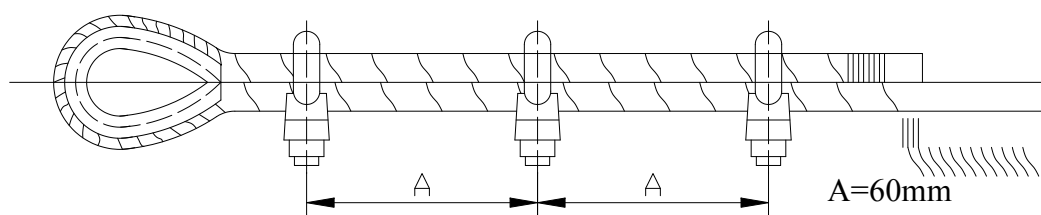

Figure 8: The Correct Clamping Method
4.7.3 The fixing method at the end of steel rope should be in accordance with the requirements of the standard GB5976-86 (see figure 8 as below). U bolt is fixed on the rear portion of steel ropes; clamp is fixed on the working section of steel ropes, which cannot be mixed up. The steel rope clamp cannot be alternately arranged on the steel rope, and the correct clamping method is as follows:
- Arrangement of the clamps (see figure 8 above);